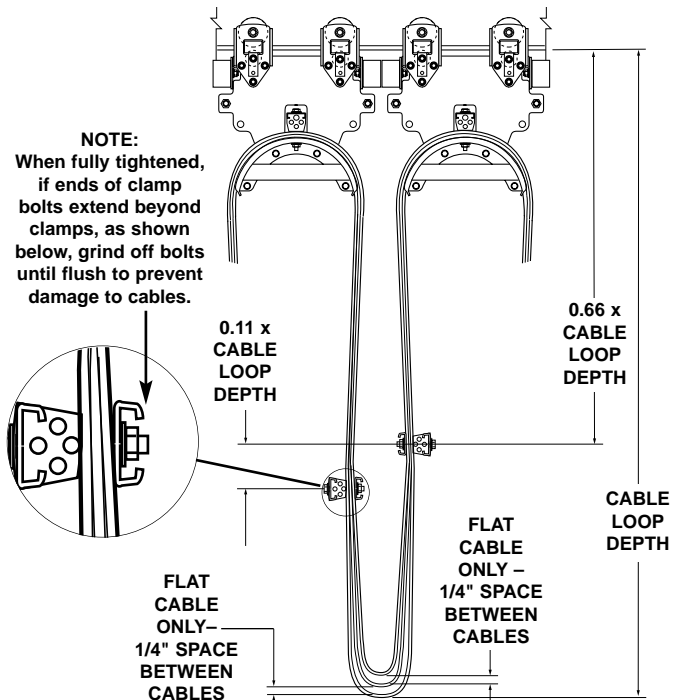

FIGURE 20-FLAT CABLE LOOP ADJUSTMENT
6. Install CABLE LOOP CLAMPS. Using one clamp per loop is not recommended. When using two clamps per loop, clamps must be staggered (Fig. 20) to prevent them from colliding during system operation. **Clamp** tightness is determined by how much the cable or hose distorts (each type of cable will react differently- 6-12 ft.lbs [8-16Nm] average). **Excessive tightness may damage cables.** **IMPORTANT-** All cables must be clamped evenly to prevent cables from sliding in the loop clamps. It will be necessary to build up smaller cables if they are clamped with larger cables. To do this, self vulcanizing wrap (Gleason p/n 108578) is recommended.
When using stacked flat cable, two loop clamps **must** be used and loops must be adjusted so that there is space between bottoms of individual cable loops. See Figure 20.